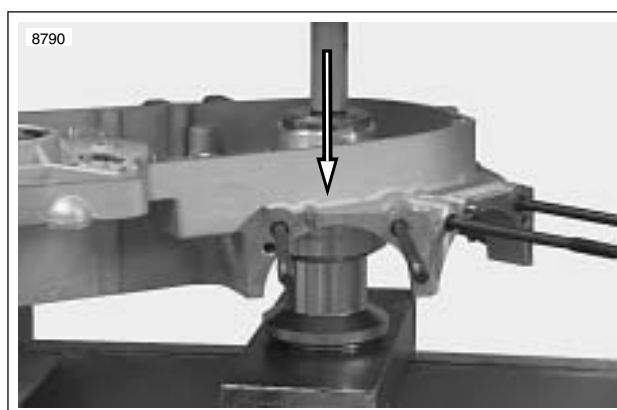

Figure 3-141. Direction of Bearing Removal From Left Crankcase
- See Figure 3-141. Using CRANKCASE BEARING REMOVER/INSTALLER with ADAPTER (Part No. B-45655, HD-42720-2 and HD-46663) press sprocket shaft bearing out of the left crankcase half.